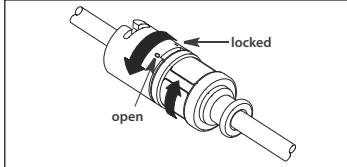

Figure 9
b. If using a catheter contamination shield with a TwistLock adapter, twist the upper half of the distal hub in clockwise direction to lock catheter in place. Reposition proximal end of catheter shield as desired. Twist upper and lower halves in opposite directions to lock in place. Test the adapter by gently tugging on the catheter to ensure a secure grip on the catheter (refer to Figure 9).